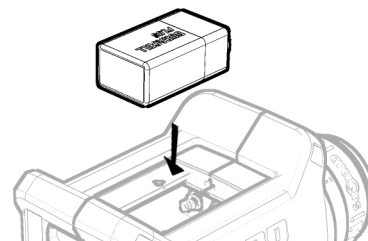

Fig. 4-2
- 3) Slide the cover back to fully expose the battery compartment (see Fig. 4-2).